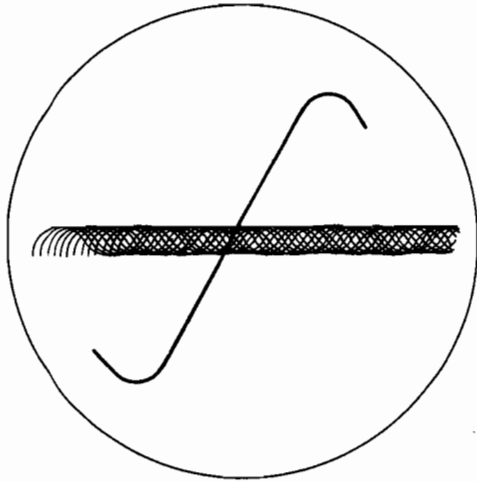

Fig. 8
- Turn the core of the output transformer T2 on the front end so that the horizontal stripes visible in the center of the waveform in Fig. 8 are maximum in width and are located in the center of the S-shaped curve. At this time, the horizontal stripe width should be symmetrical about the center line.